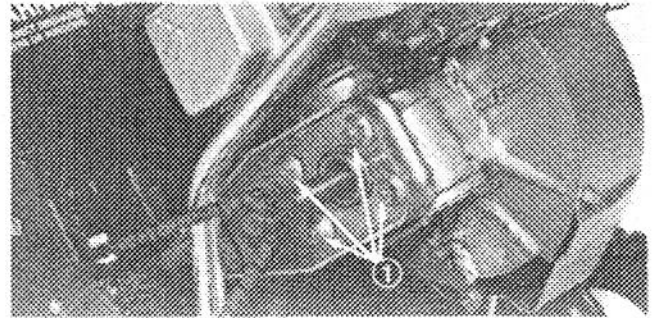

Figure 10
3. Loosen four (4) engine mounting nuts on the left-hand side of engine (Fig. 10).